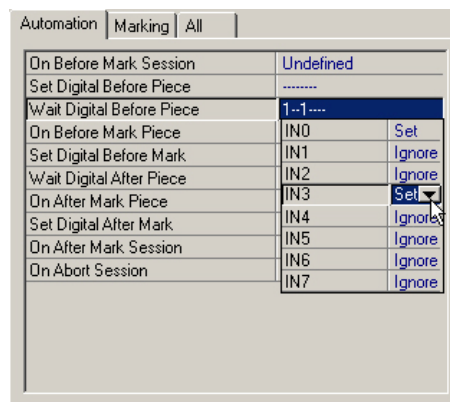

Figure 19 FASI configuration on Automation tab
- 2 Open your mark files and configure WinMark Pro’s *Wait Digital Before Piece* automation command to wait for a “Set” state on input *IN3* before marking begins (see Figure 19). This step synchronizes marking operations with the FASI safety feature.